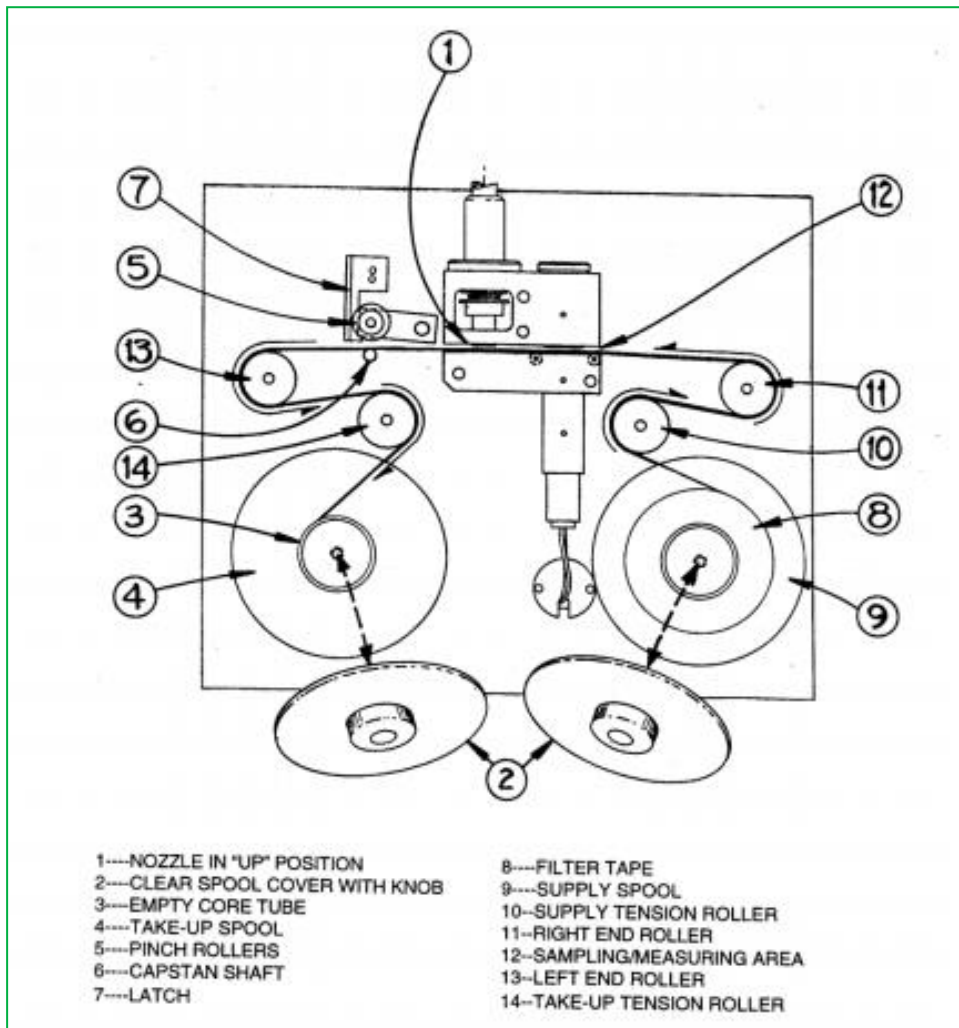

Figure 17 - Filter tape changing procedures
2. Lift the rubber pinch roller assembly and latch it in the UP position (see Numbers 5 and 7 in Figure 17). Unscrew and remove the two clear plastic spool covers.
4. Load the new roll of filter tape onto the right (supply) reel, and route the tape through the transport assembly as shown in Figure 17. Attach the loose end of the filter tape to the empty core tube with cellophane tape or equivalent.
10. While still in the TAPE menu, press the <SELF TEST> soft key. The BAM-1020 has a built-in self-test function which automatically tests most of the tape control and flow systems of the unit. (The self-test can also be used if the operator suspects a problem with the unit.) The tests will take a couple of minutes, and the BAM-1020 will display the results of each tested item with an OK or a FAIL tag (see Figure 17). If all of the test items are OK, the status will show SELF TEST PASSED as shown in the drawing below. If any item fails, the status will show ERROR OCCURRED. If an error or Failed status occurs, address the item identified, and perform the SELF TEST again. If the problem cannot be resolved, call the CMCU.